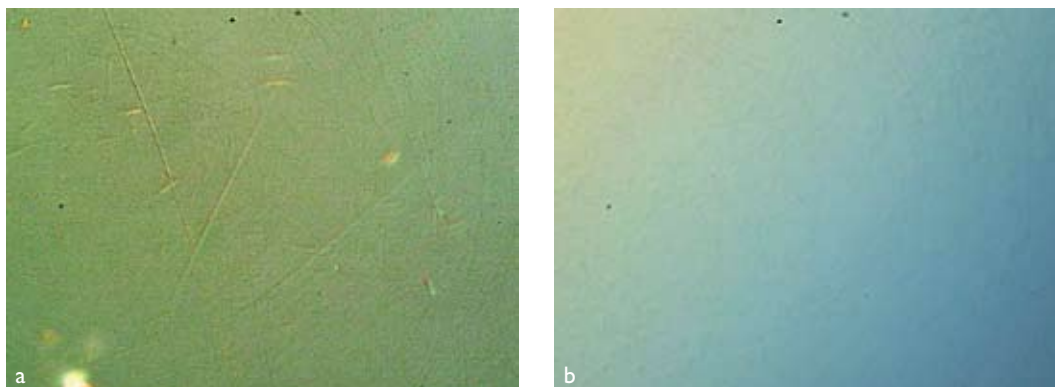
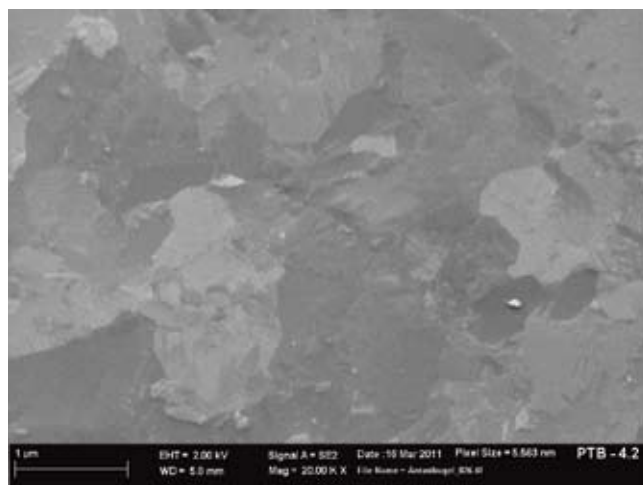

Figure 3. Comparison of surfaces at 1,250x magnification.
Figure 4. Polished diamond-coated probe surface; 20,000x magnification.
2. Sapphire probes are polished with grains harder than sapphire itself, which means that they have scratches and digs on the surface (see Figure 3). This is not the case with a diamond surface, which has a very even surface structure; and because it is the hardest material possible, it can be very smooth, as has been proven (see Figure 4).